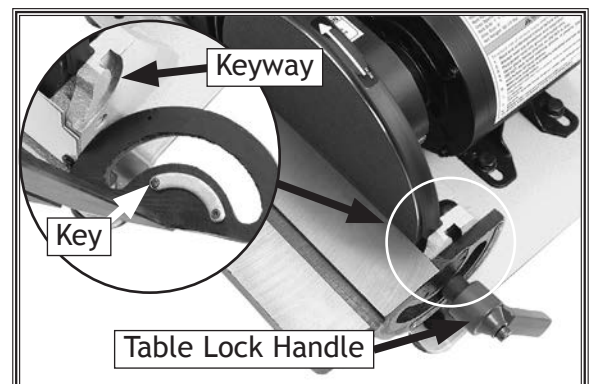

Figure 17. Sanding disc table installed.
14. Keeping cardboard in place, align half-arc key of disc table with indented keyway on disc guard (see inset of **Figure 17**).